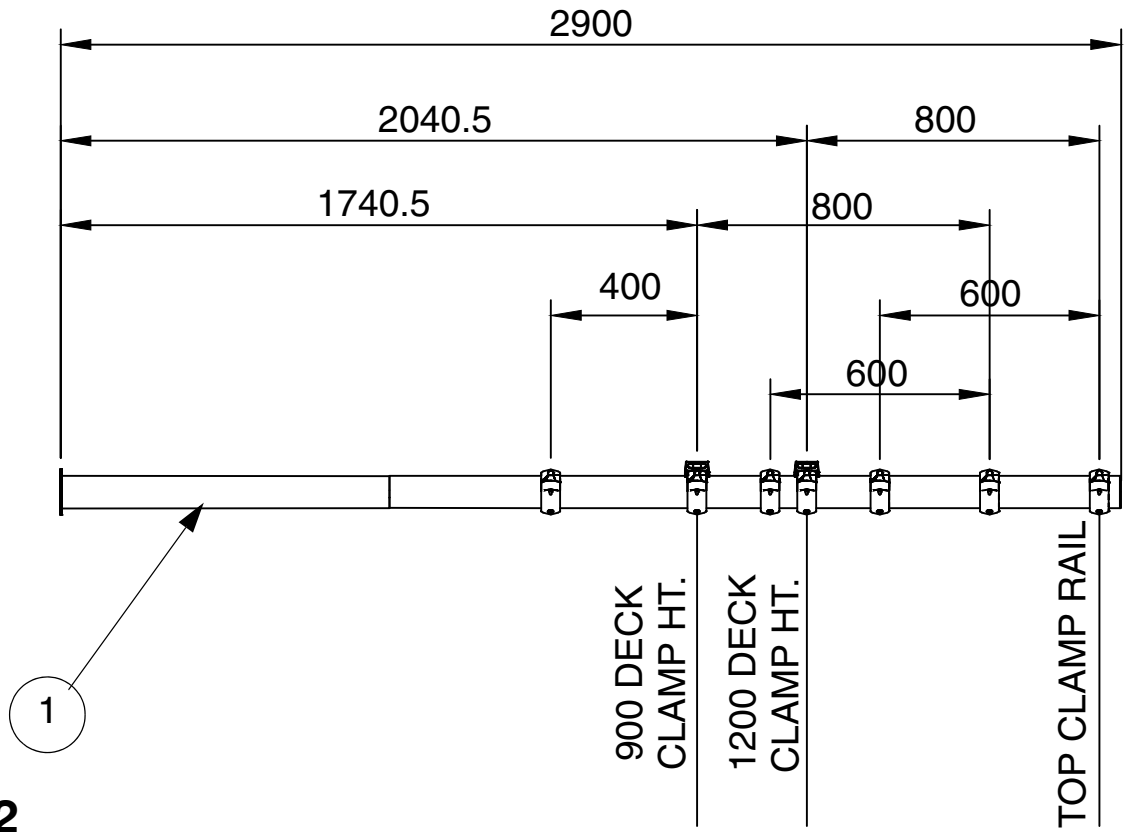

FIG.12
- 2) Assemble to 1 off Straight Leg - 1200 deck (item 1), 2 off Clamp Rings (half) (item 47) and 1 off Deck Support Casting (item 46) at the pre-inserted hole position for the 900 Deck Clamp Ht. See FIG.12 & 13.
- i) For assembly method see Note 4.4, 1), i) to iii) ensuring that the Deck Support Casting (item 46) is slotted over one of the Clamp Ring (half) before assembling the second Clamp Ring (half).
- 3) Assemble to 1 off Straight Leg - 1200 deck (item 1), 2 off Clamp Rings (half) (item 47) and 1 off Deck Support Casting (item 46) at the pre-inserted hole position for the 1200 Deck Clamp Ht. See FIG.12 & 13.
- 4) Assemble to 1 off Straight Leg - 1200 deck (item 1) 2 off Clamp Rings (half) (item 47) at the pre-inserted hole position for the top clamp rail. See FIG.12 & FIG.A.
- 5) Assemble to 1 off Straight Leg - 1200 deck (item 1) 2 off Clamp Rings (half) (item 47) at 600 position down from the top clamp rail. Align Clamp Ring (half) radially to match with other rings on the post. See FIG.12 & FIG.B.
- 6) Assemble to 1 off Straight Leg - 1200 deck (item 1) 2 off Clamp Rings (half) (item 47) at 800 position up from the 900 Deck Clamp Ht. Align Clamp Ring (half) radially to match with other rings on the post. See FIG.12 & FIG.B.
- 7) Assemble to 1 off Straight Leg - 1200 deck (item 1) 2 off Clamp Rings (half) (item 47) at 600 position down from the previous clamp. Align Clamp Ring (half) radially to match with other rings on the post. See FIG.12 & FIG.B.
- 8) Assemble to 1 off Straight Leg - 1200 deck (item 1) 2 off Clamp Rings (half) (item 47) at 400 position down from the 900 Deck Clamp Ht. Align Clamp Ring (half) radially to match with other rings on the post. See FIG.12 & FIG.B.
- 26) Place 1 off Straight Leg - 1200 deck (item 1) (as seen in FIG.12) into appropriate foundation and shim as required to ensure the leg is plumb and square and with the welded F.S.L. mark at the correct level. See FIG.2 & 18.